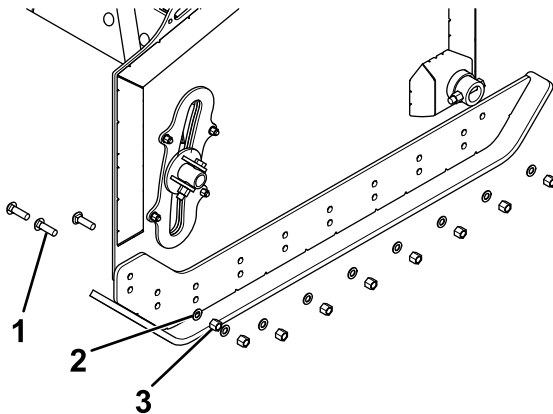

Figure 15
1. Remove the fasteners securing the shoe to the plow wing (Figure 15).
2. Move the shoe up and secure it through the lower set of holes with the previously removed fasteners (Figure 15).